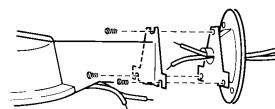

Fig. 4
Step 6: Mount the fixture to the mounting plate adapter (G) using the 3 screws and nuts provided (H) (Fig. 4). House supply wires should be in the bottom area of the fixture arm at this point.